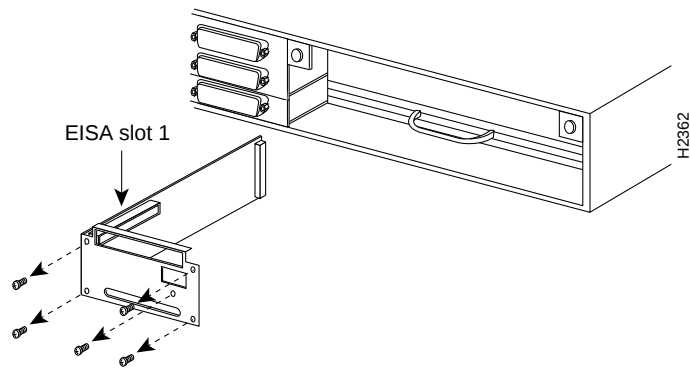

Figure 4-1 Model 720/730 EISA Interface
Step 1 Models 720 and 730: remove the EISA interface assembly at the rear of the workstation. Remove the five screws, and pull the handle to remove the assembly. See Figure 4-1.